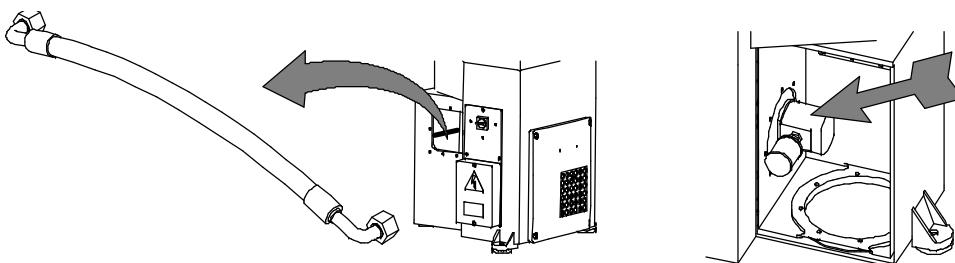

Fig. 27
- a) Check that there is no leakage under pressure from the delivery pipe (code 02003636, tav. 4-5-6) and from the pertinent mechanic fittings while the machine is trying to cut (left Fig. 27).
- b) Also check if there is any oil leakage under pressure from the pump (for S/SE108: code 02001196 (50Hz) - code 02001162 (60Hz); for S/SE116/120C: code 02003899 (50 Hz) - code 02003898 (60 Hz); for S/SE120/122/124C/124/125C/125/125L: code 02003900 (50 Hz) - code 02003899 (60 Hz), tav. 4-5-6) (right Fig. 27).